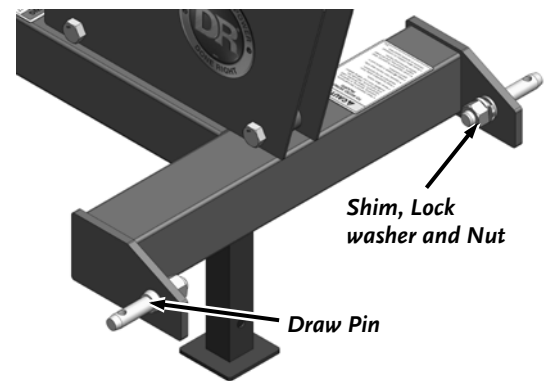

Figure 10
10. Install the PTO Class 1 Draw Pins to the Frame (**Figure 10**). Loosely secure with 1"ID X 1.38"OD Shim, 7/8" Lock Washer and 7/8" Hex Nut.